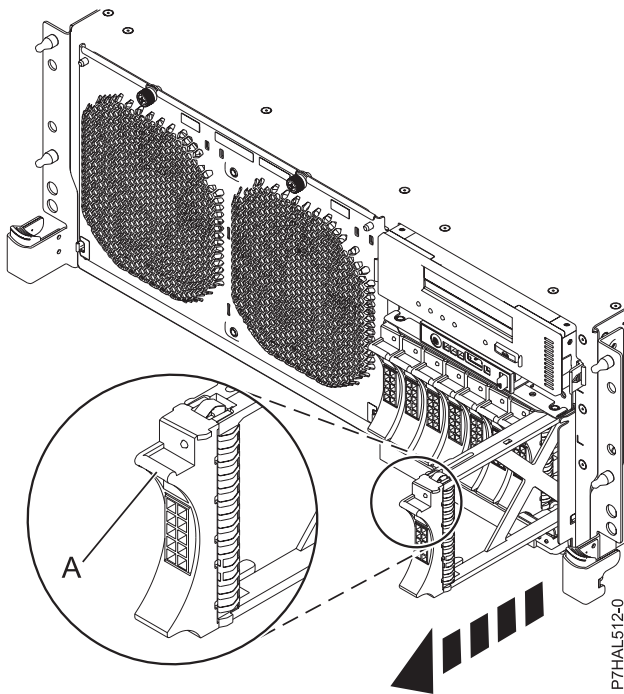

Figure 29. Removing a disk drive filler from the server
2. Hold the filler handle (A) and pull out the disk drive filler from the slot, as shown in Figure 29.